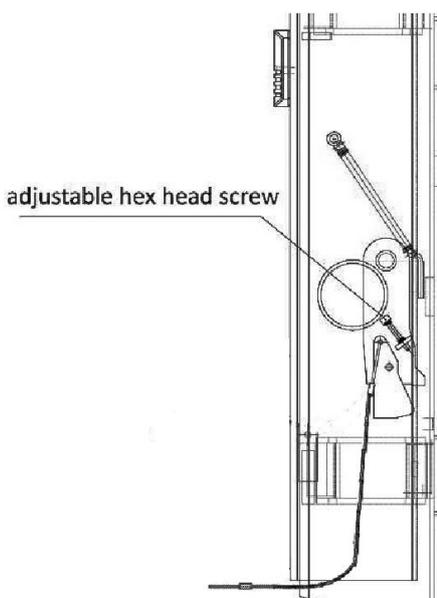

Fig 12
2. Check if mechanical locks can be well engaged or released in the running process. Adjust by screwing the hex head screw as showed in the following drawing in case the locks do not work well. (Screw clockwise in case the lock can not release and screw counterclockwise in case the lock can't be engaged.) **(Fig 12)**